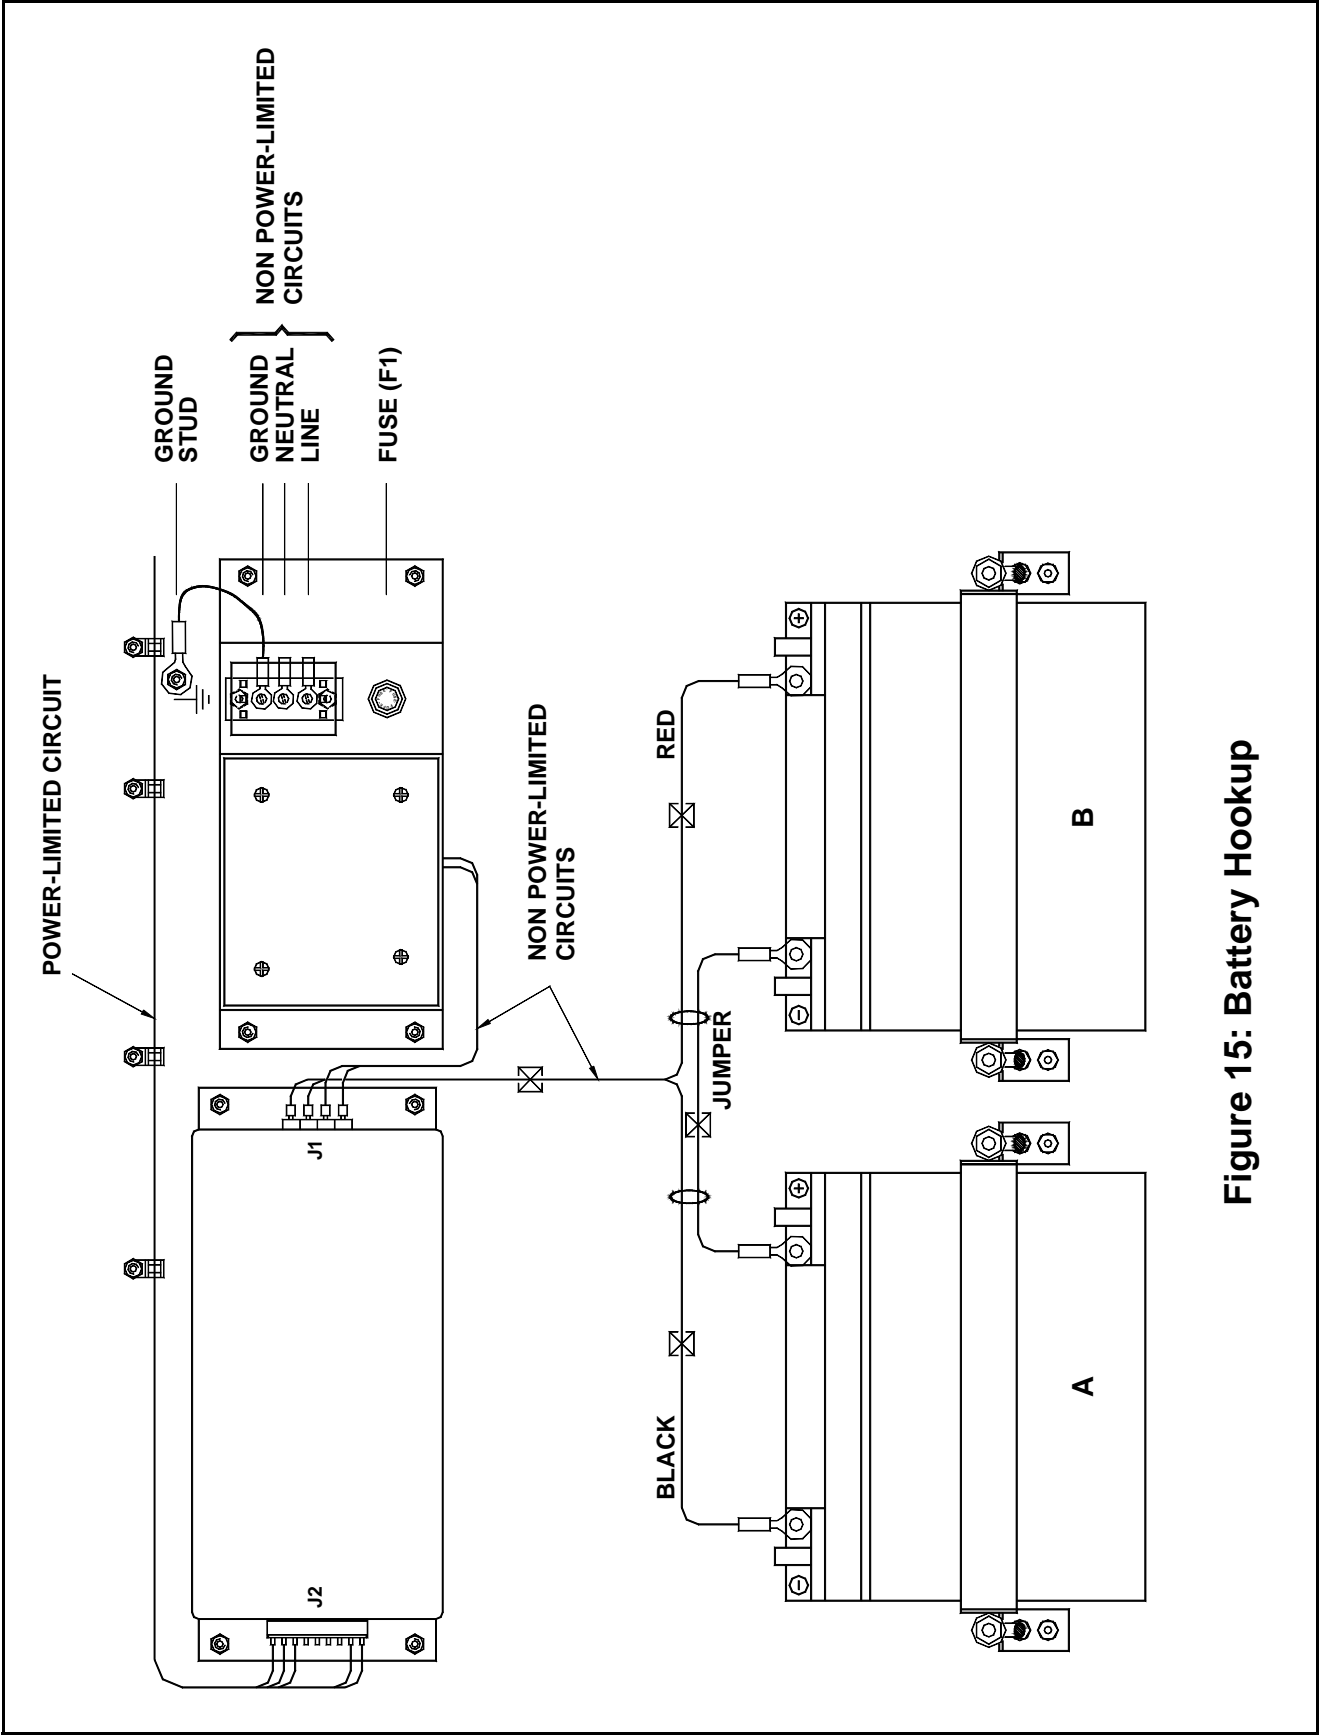

Figure 15: Battery Hookup
3. Connect jumper between the batteries 'A' (+) and 'B' (-) poles (see Figure 15).